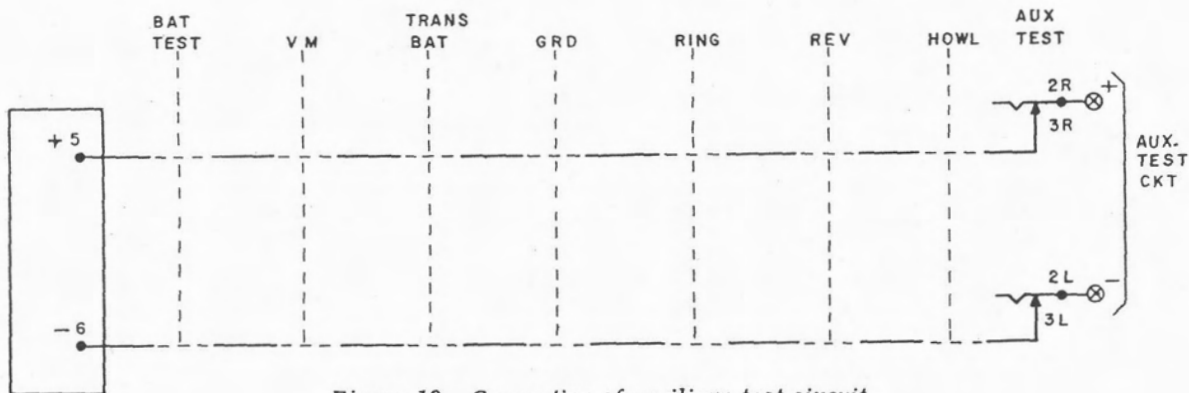

Figure 13. Connection of auxiliary test circuit.
for performing SATT identity tests; however, to actually perform the tests, auxiliary test circuits are needed. For details on 5 spotter identification, see Automatic Electric drawing H-85295 and circuit explanation E-85295 or figure 13 of H-85275 with related explanation.
4.9.1 Auxiliary test circuit. Refer to figure 13. Operation of the AUX TEST key connects the
4.9.3 Spotter dial. The spotter dial circuit has five lamps associated with it for SATT five party identification. The RLS and SPOTTER PULSE keys are also part of this circuit. This test circuit will be used with the "type A SATT system" providing for a minimum of five party identifications. To use the spotter dial circuit an auxiliary circuit is necessary. For more information, see Automatic Electric drawing H-85295 and operating explanation E-85295, or figure 13 of H-85275 and explanation E-85275.